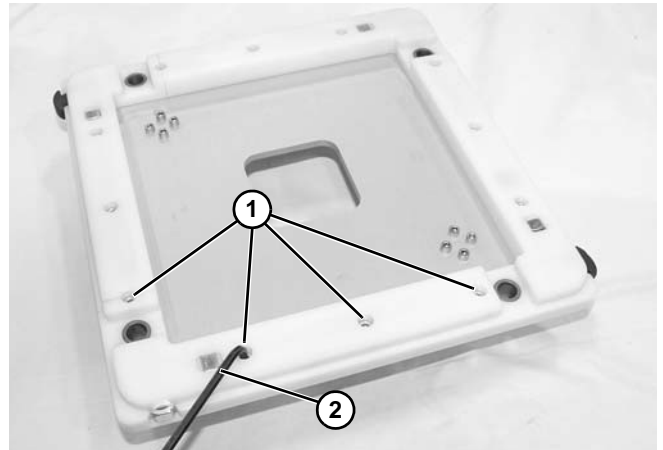

Figure 97
3. Remove socket head screws (**Figure 97, item 1**) with hex wrench (**Figure 97, item 2**).